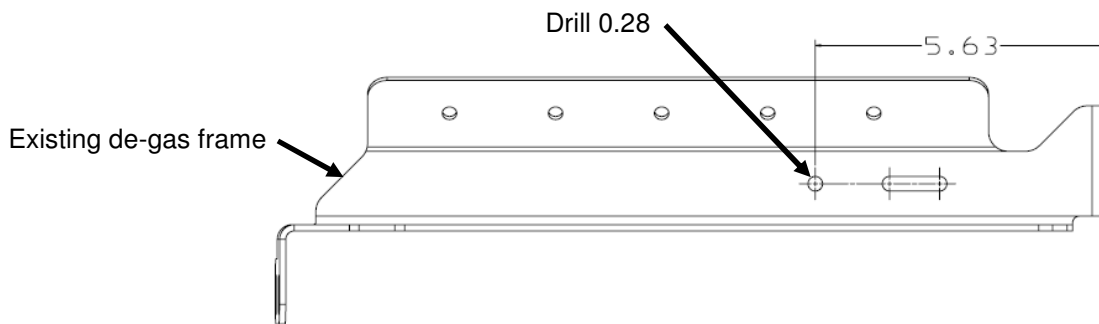

Figure 3: De-gas Frame Bracket Rework (as shown from the bottom)
12. Mark and drill a 0.28 Dia clearance hole through the existing de-gas frame as shown in Figure 3.